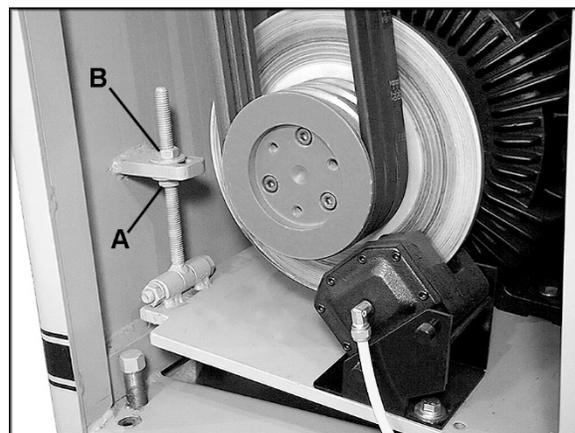

Figure 11
- Loosen the lower hex nut (A, Figure 11 & 12) on the motor base.
- Tighten the top hex nut (B, Figure 11 & 12) to lower the motor plate until proper tension is achieved.
- Re-tighten the bottom hex nut (B, Figure 11 & 12) against the bottom of the motor plate.